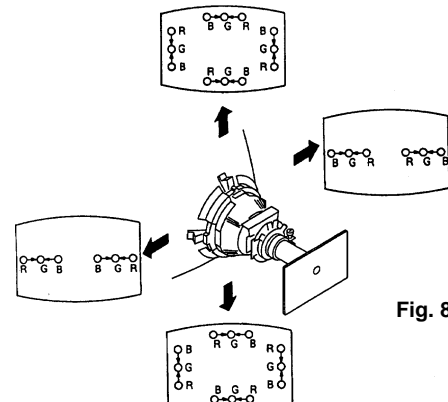

Fig. 8
3. Move the deflection yoke for best convergence as shown below. (Fig. 8)